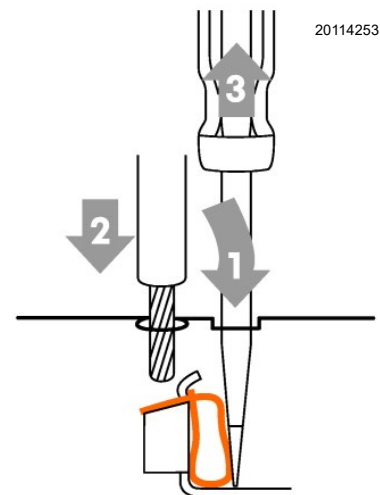

Fig. 33
- Insert the previously stripped cable and remove the screwdriver. Make sure the cable is securely fastened Fig. 33.